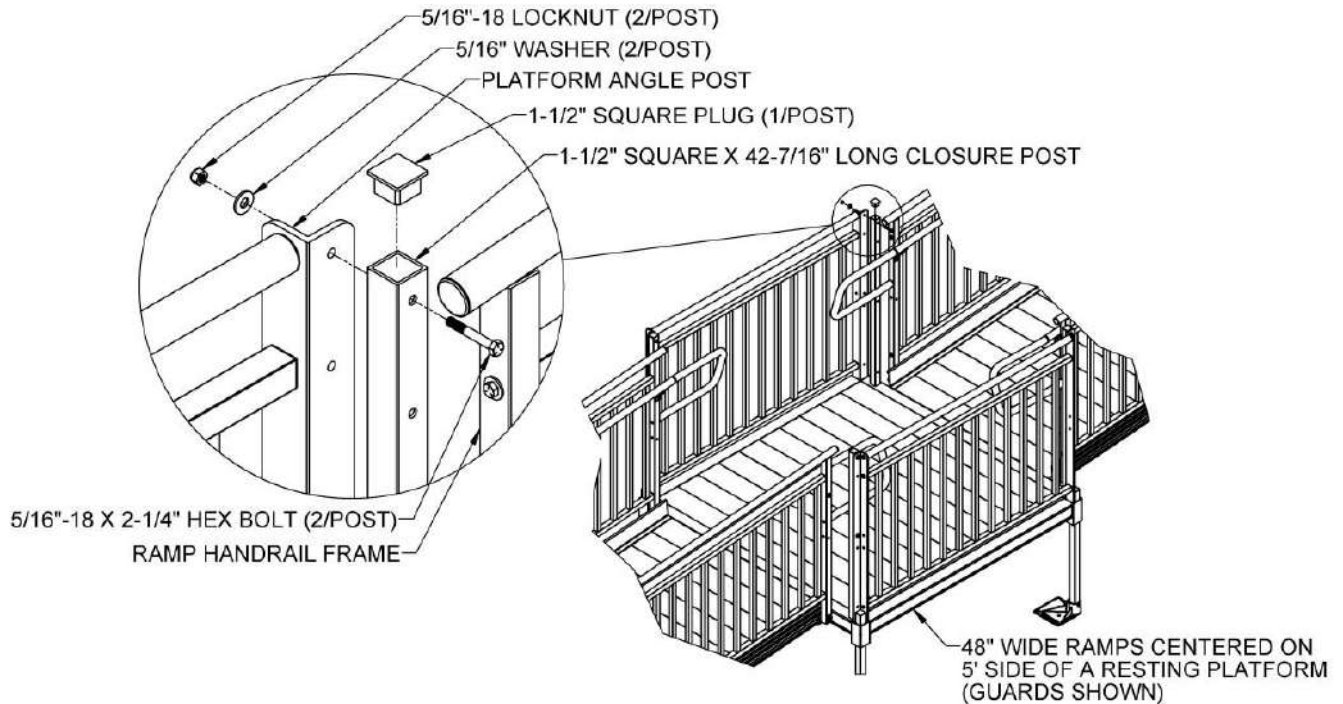

FIG. 5.49
- 5.11.1. Align the holes in a 1-1/2" square x 42-7/16" long closure post with the holes in a platform angle post on the side adjacent to the ramp handrail frame. Attach the posts together using 5/16"-18 x 2-1/4" hex bolts, 5/16"-18 locknuts, and 5/16" washers oriented as shown (FIG 5.49) through the uppermost holes and the upper of the two middle holes in the platform angle post.
- 5.11.2. Insert 1-1/2" square plugs into tops of 1-1/2" square closure posts (FIG. 5.49). Use a rubber mallet or similar tool to fully seat as needed. If necessary, use construction adhesive to bond the plug in place.